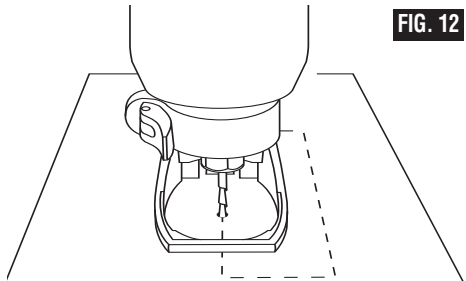

FIG. 12
Step 4: Slowly bring it to a 90° angle to begin the cut (Fig. 12). The base guide should be flush to the material surface. For all materials (EXCEPT cutting around outlet boxes in drywall), steer the tool in a clockwise direction with slow, steady pressure to make the cut.